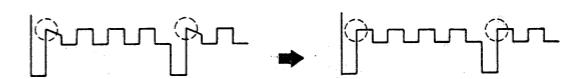

Fig. 5
3. Adjust T253 for the waveform at pin 25 of IC252 to becomes as Fig. 5.